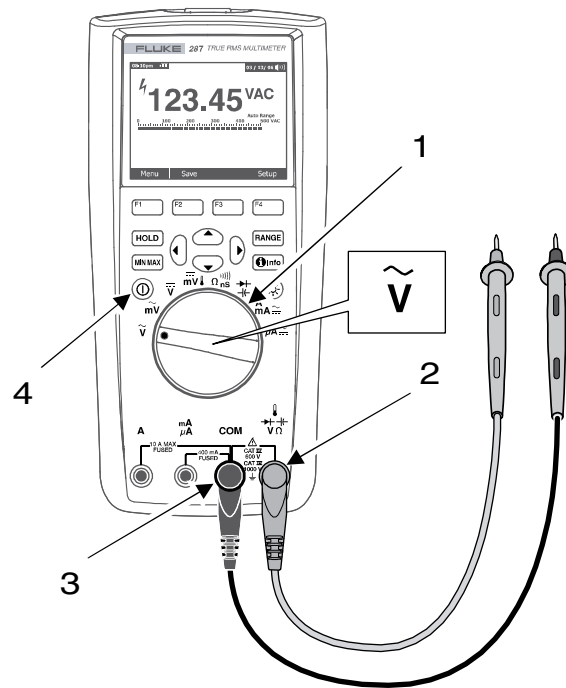

Figure 1. AC Voltage Mode
1. Insert the black test lead into the COM terminal (Figure 1., Item 3).
2. Insert the red test lead into the volts/resistance terminal (Figure 1., Item 2).
3. Press the On/Off button (Figure 1., Item 4) to turn the multimeter on.
- Position the rotary switch (Figure 1., Item 1) to the V~ (regular voltage checks) or to the mV~ (very low voltage checks) position. The multimeter is now ready for standard AC voltage measurements.